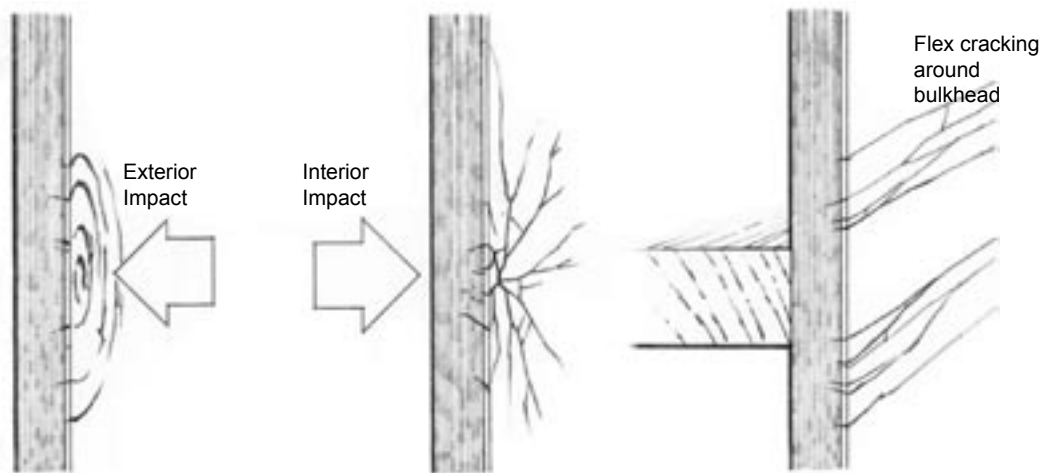

Figure 2-1 Typical types of cracks from impact or flexing. The pattern of cracking may help to determine the cause.
1. Examine the pattern and location of cracks to determine their cause (*Figure 2-1*). If the pattern or location indicates flexing, examine the interior side of the panel to determine the best location for additional reinforcement. If the cracks are a result of impact, examine the panel internally to determine whether damage extends through the entire laminate.
- b. Minor cracks or scrapes that run through the gelcoat into the first chopped strand mat layers of the laminate (*Figure 2-1*) should be repaired with epoxy using the procedures described below (Section 2.2). Finish with the gelcoat repair technique described later in Section 2.3.1. If necessary, reinforce the laminate to reduce flexing as described in Section 3.